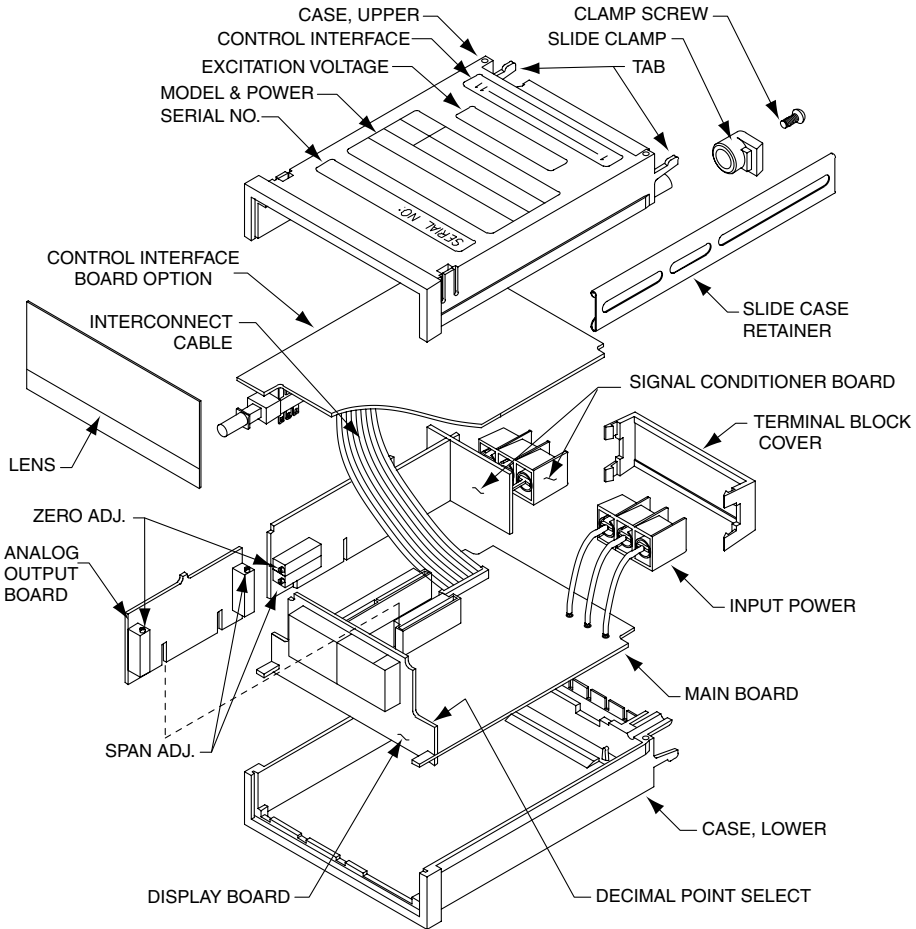

Figure 1 Exploded View
2.1 PANEL MOUNTING PROCEDURE (SEE FIGURE 1)